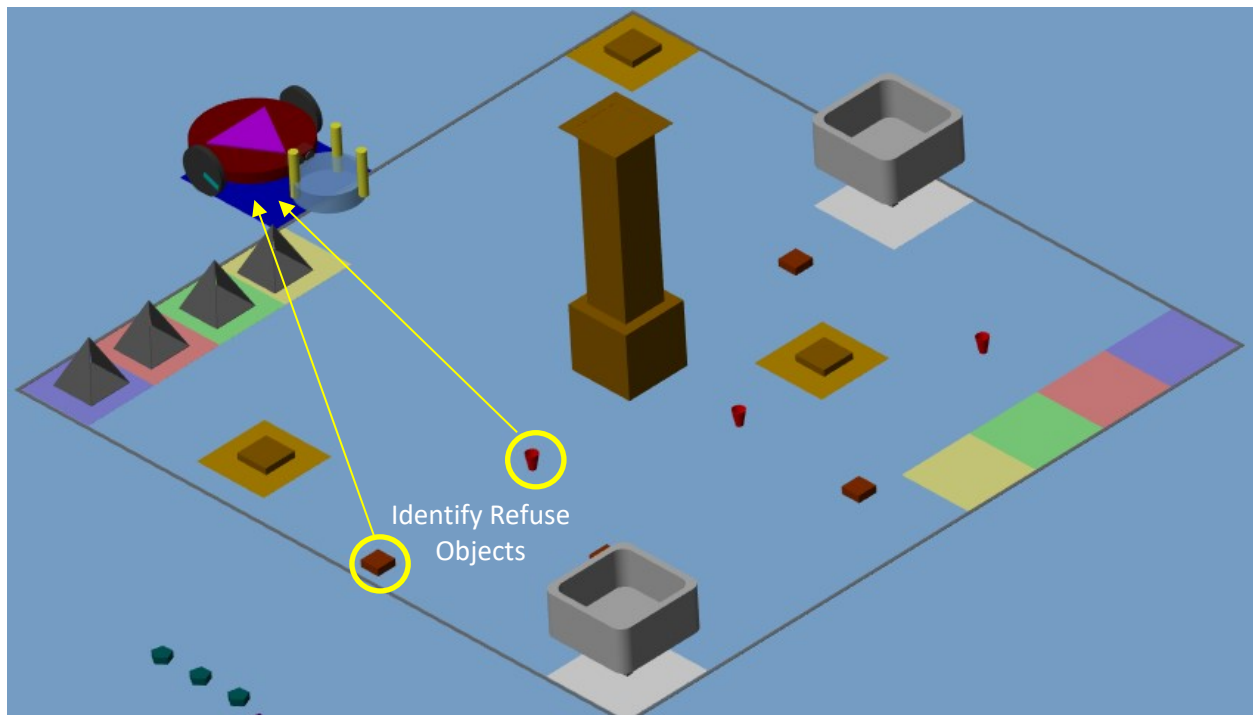

Figure 2.5. Phase 2 Field Layout and Objectives
- Figure 2.5 represents the field layout expected during Phase 2.
- Three (3) light poles are preloaded onto the virtual robot at the beginning of the phase. These light poles play no role in this Phase.